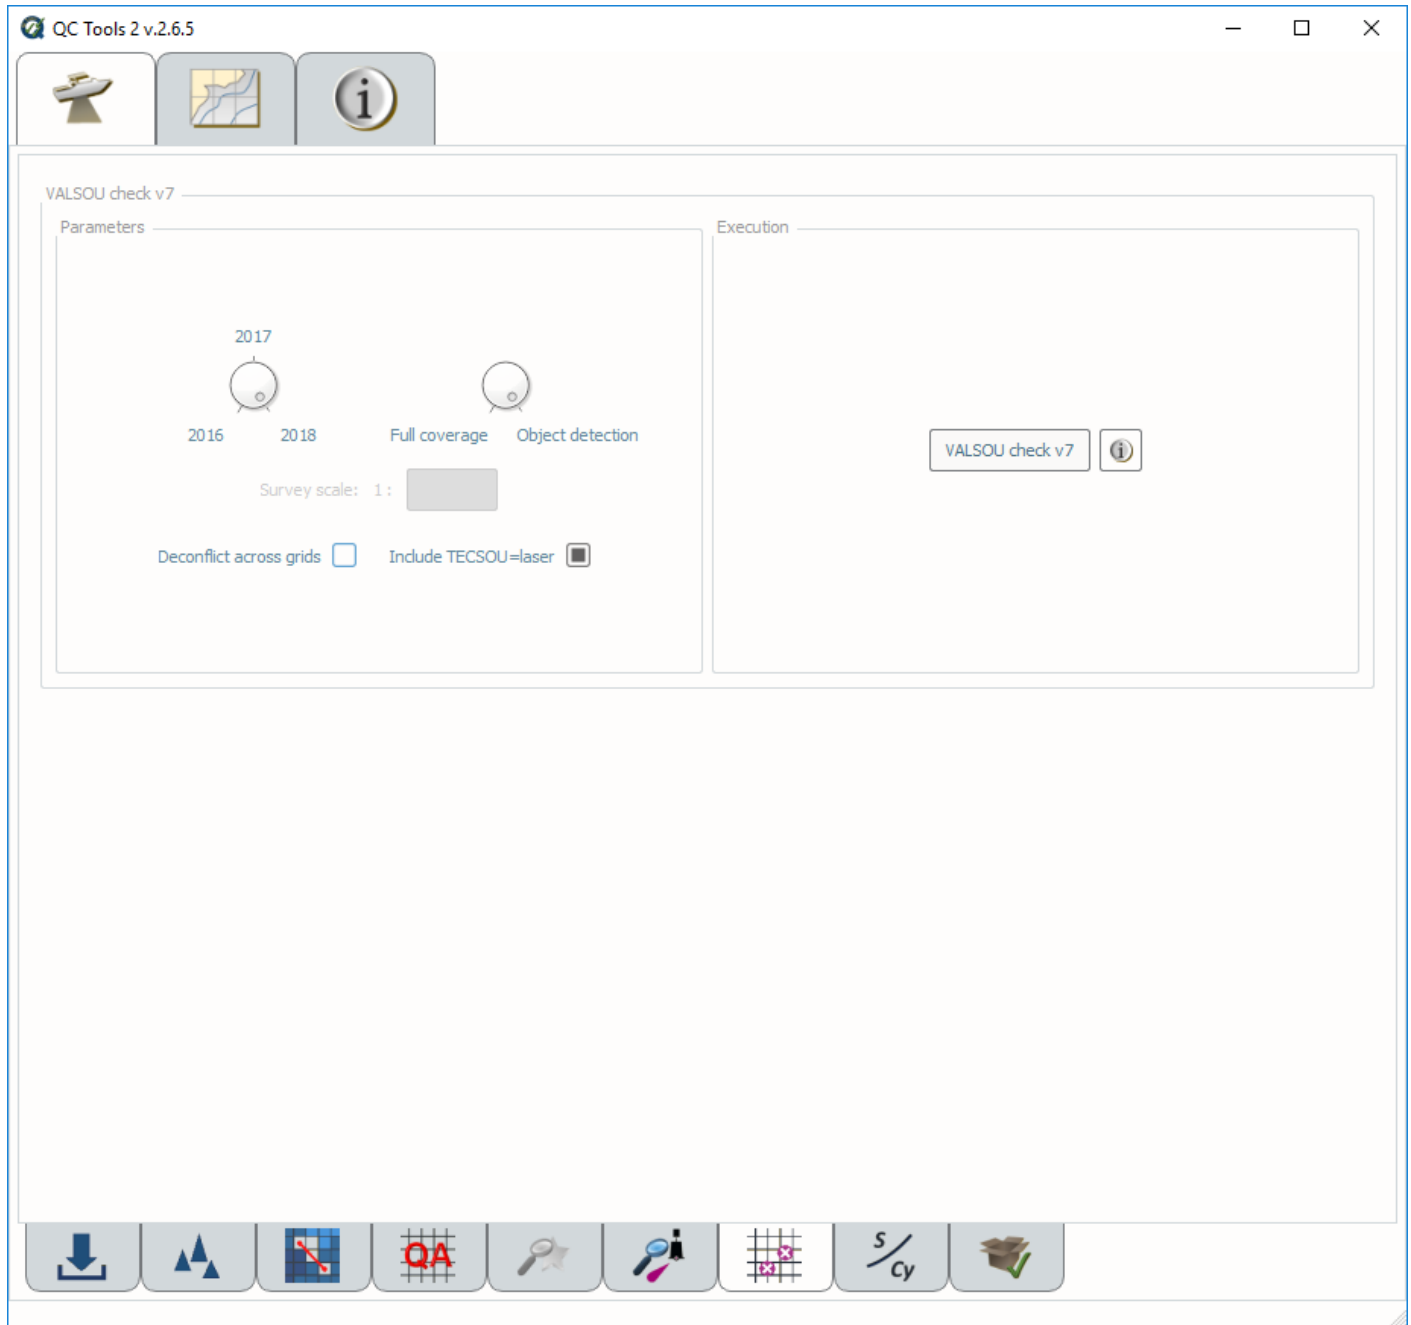

Fig. 2.27: The VALSOU check tab.
- Select the **VALSOU check** tab (Fig. 2.27) on the bottom of the QC Tools interface.